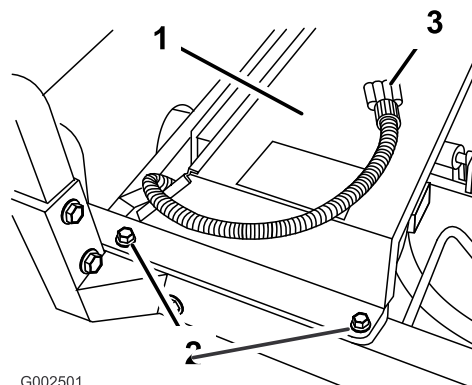

Figure 19
2. Install the radiator cover assembly over the vehicle's radiator (Figure 19).